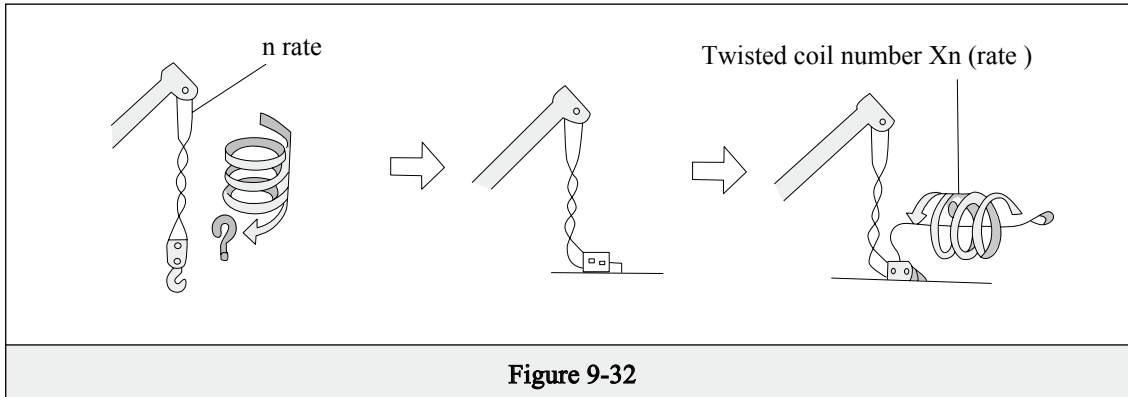

Figure 9-32
6. The crane uses imported anti-rotation high-quality steel wire rope, so in general no rotation would happen. In case steel wire ropes are twisted together, please correct that as the following steps(Figure9-32).